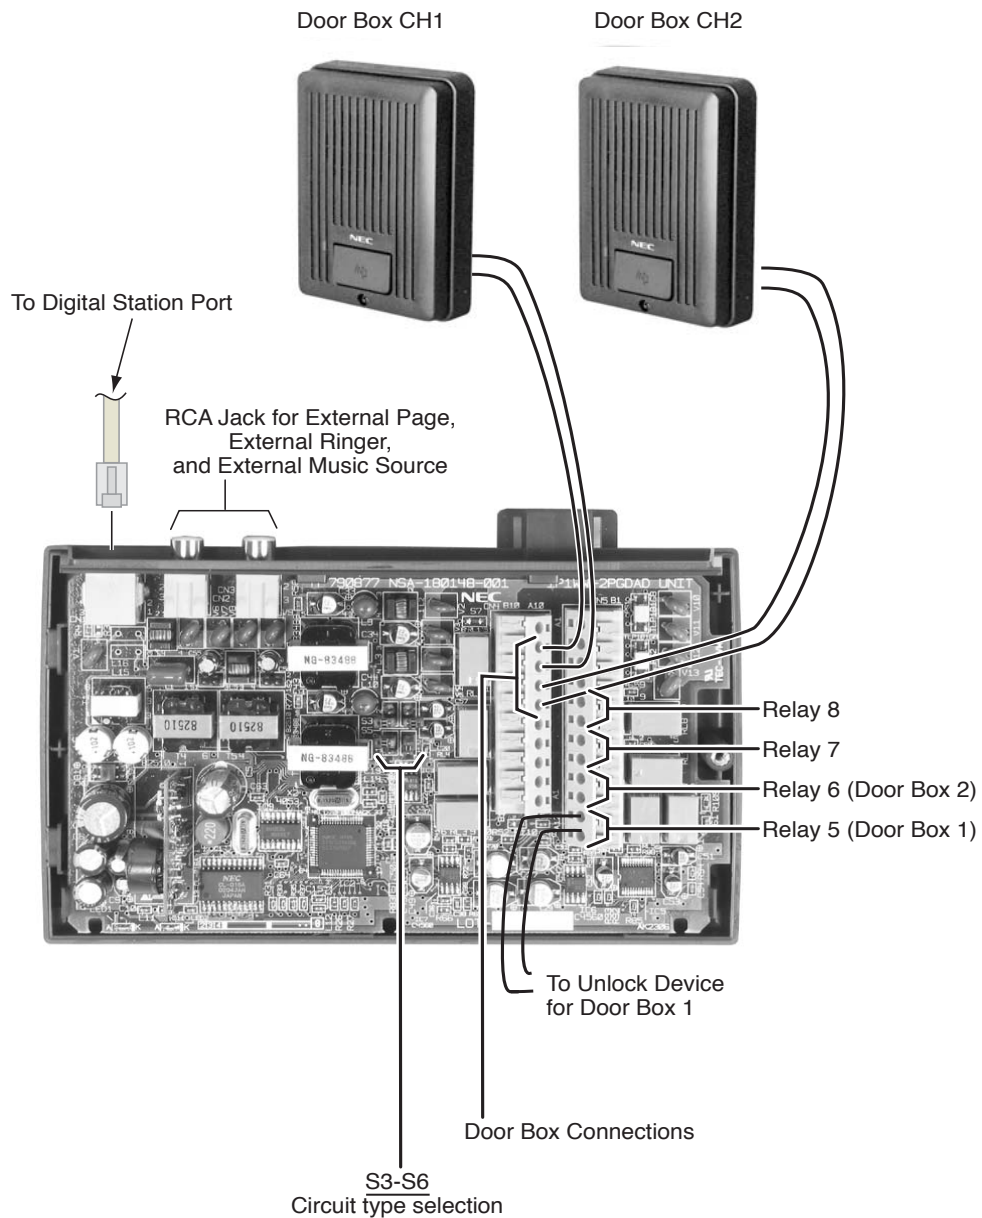
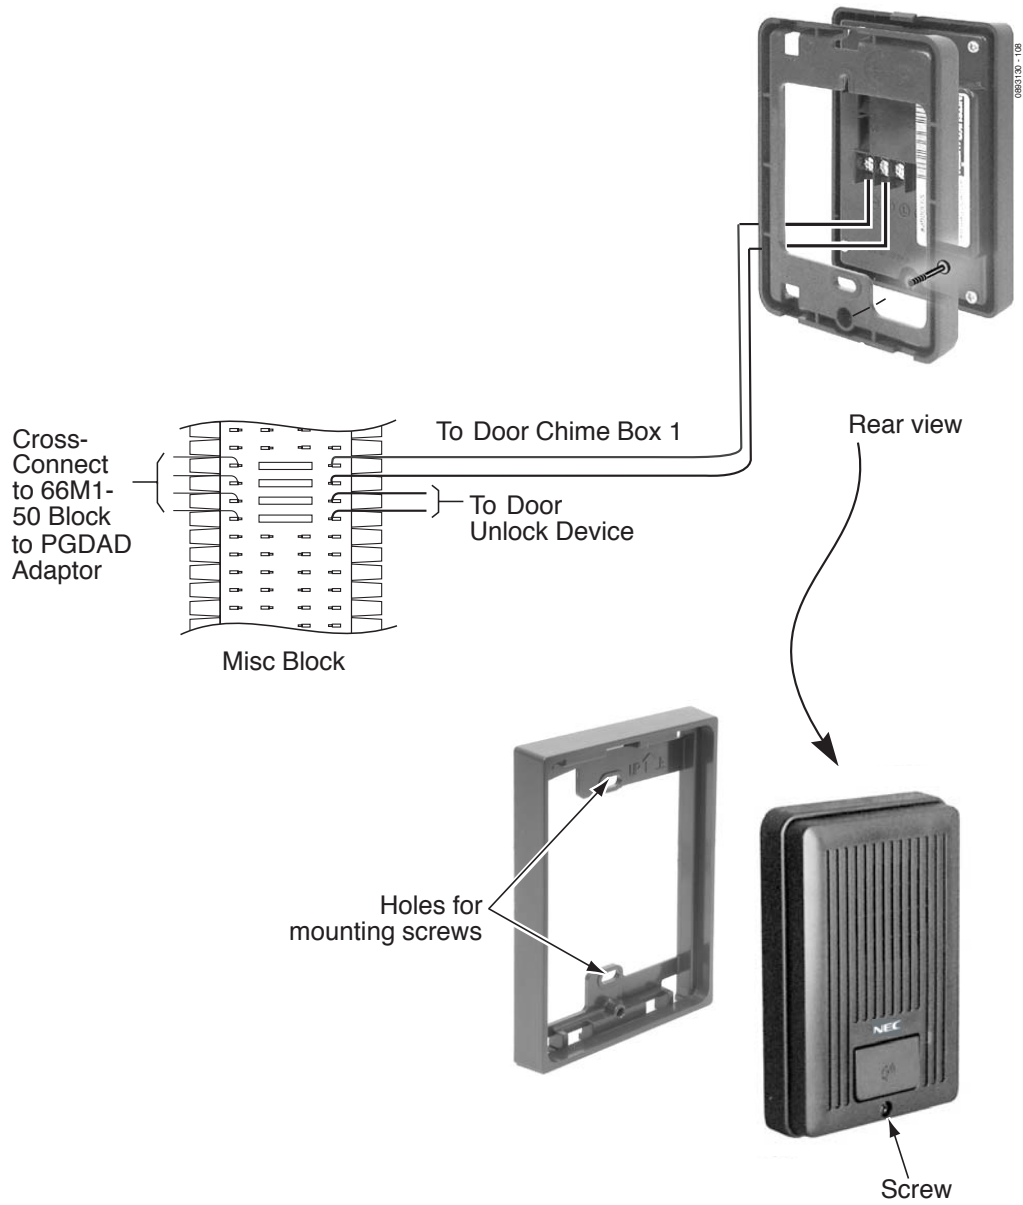

Figure 4-13: SETTING THE 2PGDAD FOR A DOOR BOX
Figure 4-14: INSTALLING A DOOR BOX
4.4.1 Installing a Door Box (Figure 4-13 - Figure 4-14) - P/N 922450
9. Connect the two-conductor station cable from the CN4 connectors (pins 2-3 = Door Box 1, pins 45 = Door Box 2 [see Figure 4-13: **SETTING THE 2PGDAD FOR A DOOR BOX** on page 4-16]) within the 2PGDAD module to the Door Box terminals (screw terminals 1 and 2 or the left-most screw terminals). These wires must be routed through the opening in the bottom of the Door Box mounting bracket.